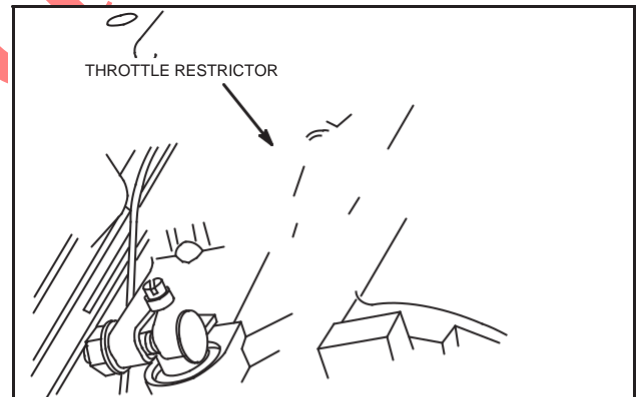

Fig. 24 - Adjusting Throttle Restrictor
4. With engine running at governed idle RPM, bend throttle restrictor tang so that tang just contacts governor lever, Fig. 24.